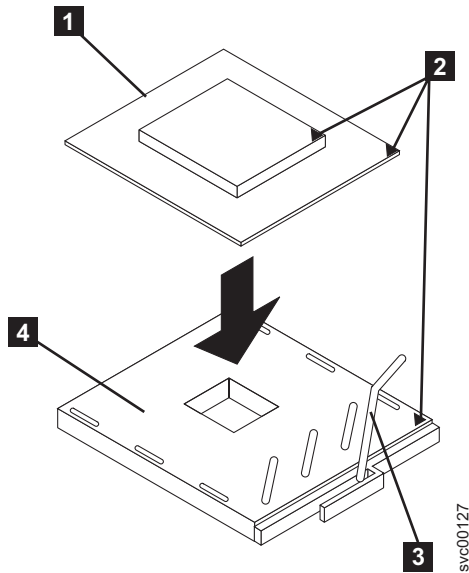

Figure 127. Microprocessor locking lever in open position
3. Rotate the locking lever **3** from the closed position to the open position. See Figure 127 on page 344.